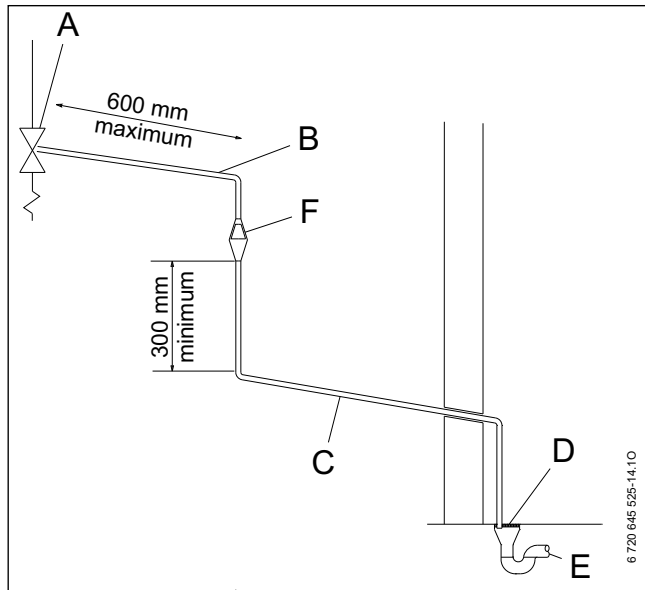

Fig. 11 Diagram of a typical discharge pipe arrangement (extract from Building Regulation G3)
- Be at least one pipe size larger than the nominal outlet size of the safety device unless its total equivalent hydraulic resistance exceeds that of a straight pipe 9 m long i.e. discharge pipes between 9 m and 18 m equivalent resistance length should be at least two sizes larger than the nominal outlet size of the safety device, between 18 and 27 m at least 3 sizes larger, and so on. Bends must be taken into account in calculating the flow resistance. Refer to Fig. 11, Table 8 and the worked example.
1) see Fig. 11